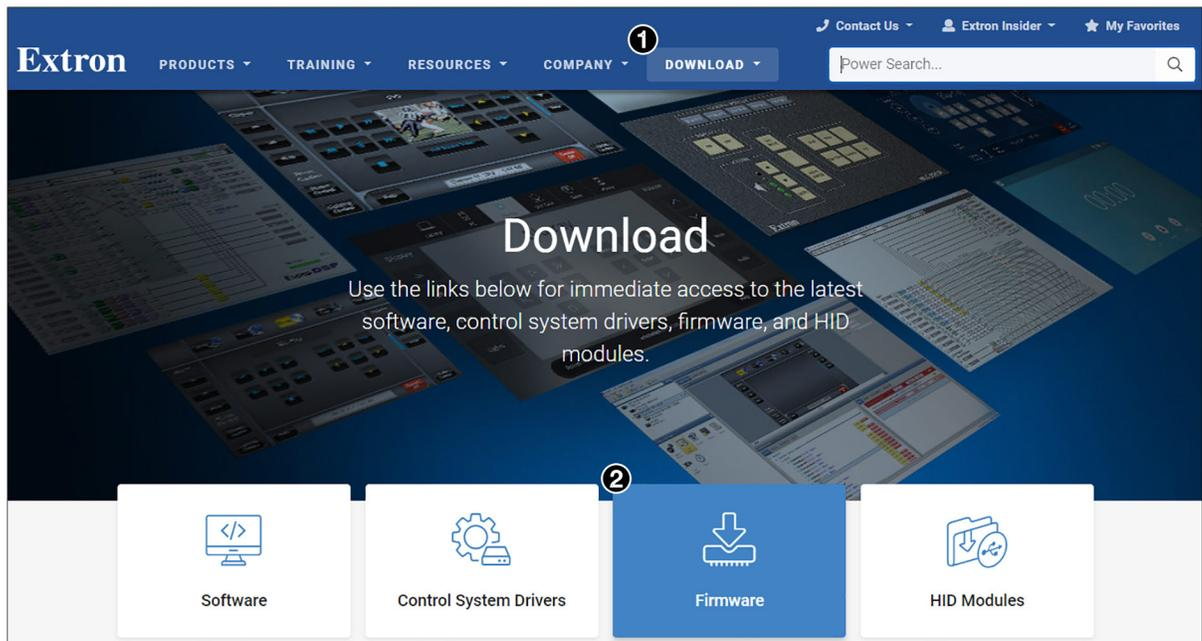

Figure 15. Firmware Button on Download Screen
Alternatively, click the **Downloads** tab (see figure 15, ①), then click the **Firmware** button (②).